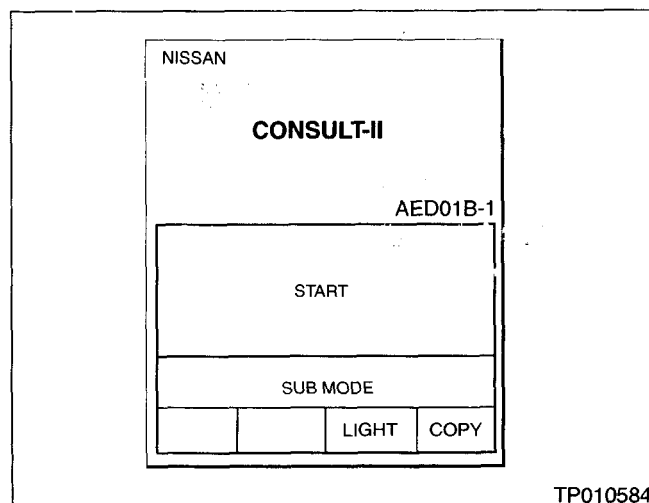

Figure 14
15. Turn "ON" the ignition switch (do not start the engine). CONSULT-II will turn on automatically (see Figure 14).